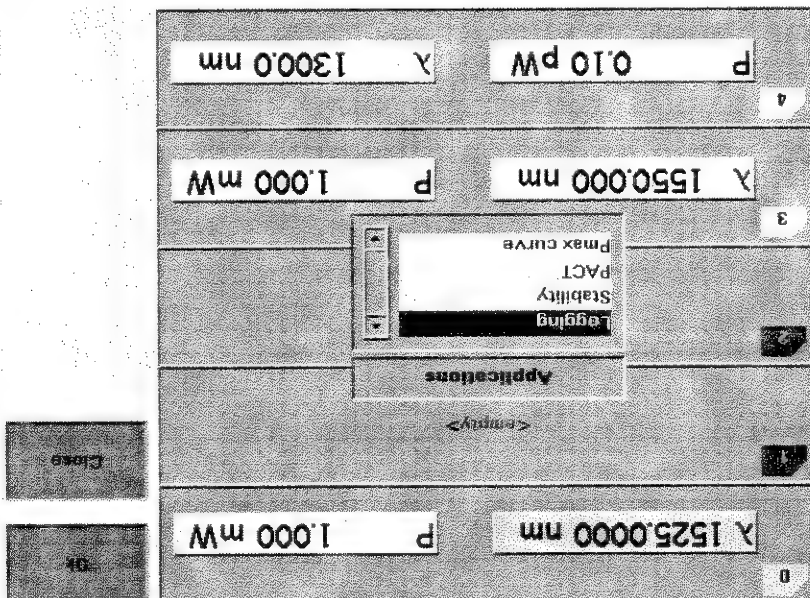

Figure 113 The Applications Menu
- 1 Press the *Appl* hardkey. The Applications menu, as shown in Figure 113, appears.